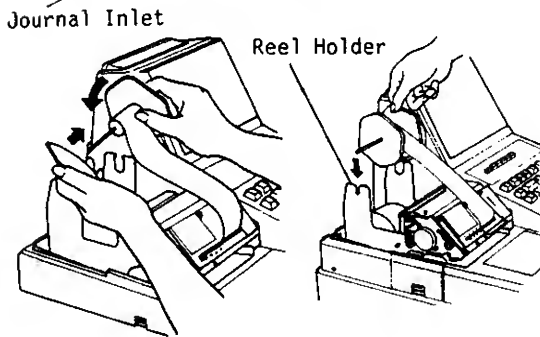

Fig. 10
6. When the paper comes out for a enough length, wind the paper end on the Journal Winding Reel two or three times, and set the Journal Winding Reel to the Reel Holder. (Fig. 10)